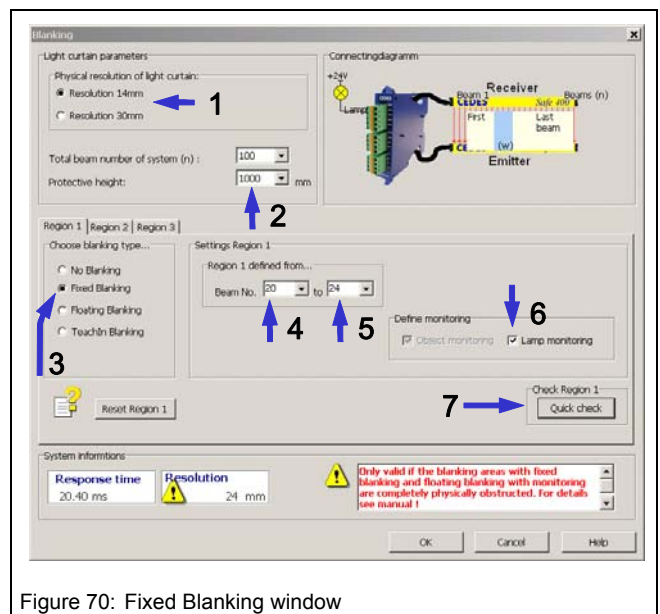

Figure 70: Fixed Blanking window
If Blanking is configured then a lamp must clearly indicate this to the operator. The SafeCIS3 controller module monitors the connection of a Blanking lamp. If this lamp is defective or not connected, the controller will go immediately into a lockout condition. According risk analysis of the application, the monitoring of the indication lamp may be deactivated (Figure 70 - 6)
In the case of "Fixed Blanking", the first (Figure 70 - 4) and last interrupted beams (5) must be defined. and thereafter confirmed with a cursor click on the "Quick check" box. For more detailed information see chapter 7.1.1.